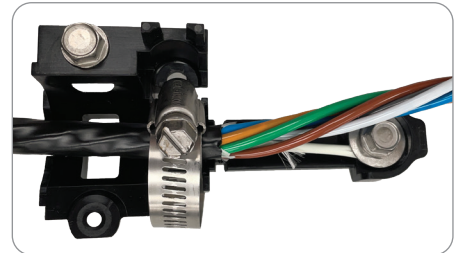

Figure 43
2. Secure strength members under retention bolt without trapping or pinching tubes (Figure 43).